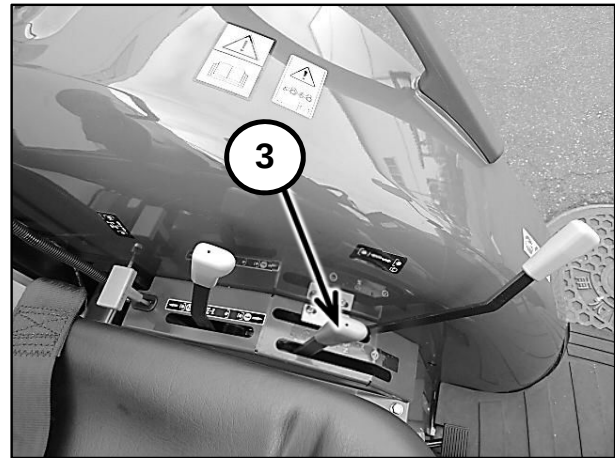

Figure 2-30
The range selector lever (3) in Figure 2-30, is located by the left-hand fender. It has two range positions. “L” low range, “H” high range, and “N” neutral position. The range lever must be in the neutral position to activate the safety start system and allow the engine to start.